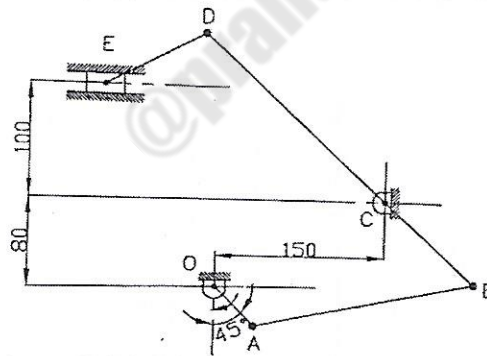

Fig. 1
ii) Find degrees of freedom for the mechanism as shown in the Fig.1.	2.5
- A) Fig. 1 shows part of an opposed piston engine mechanism. The velocity of the piston E for the given instant is 780 mm/s. the crank OA rotates at a uniform speed in a clockwise direction and makes an angle of 45° to vertical as shown in Fig. 1. Draw a velocity diagram and determine the speed of the crank in rpm. OA= 50mm, AB= 200 mm, BC= 110 mm, CD= 220 mm and DE= 100 mm. Apply 6